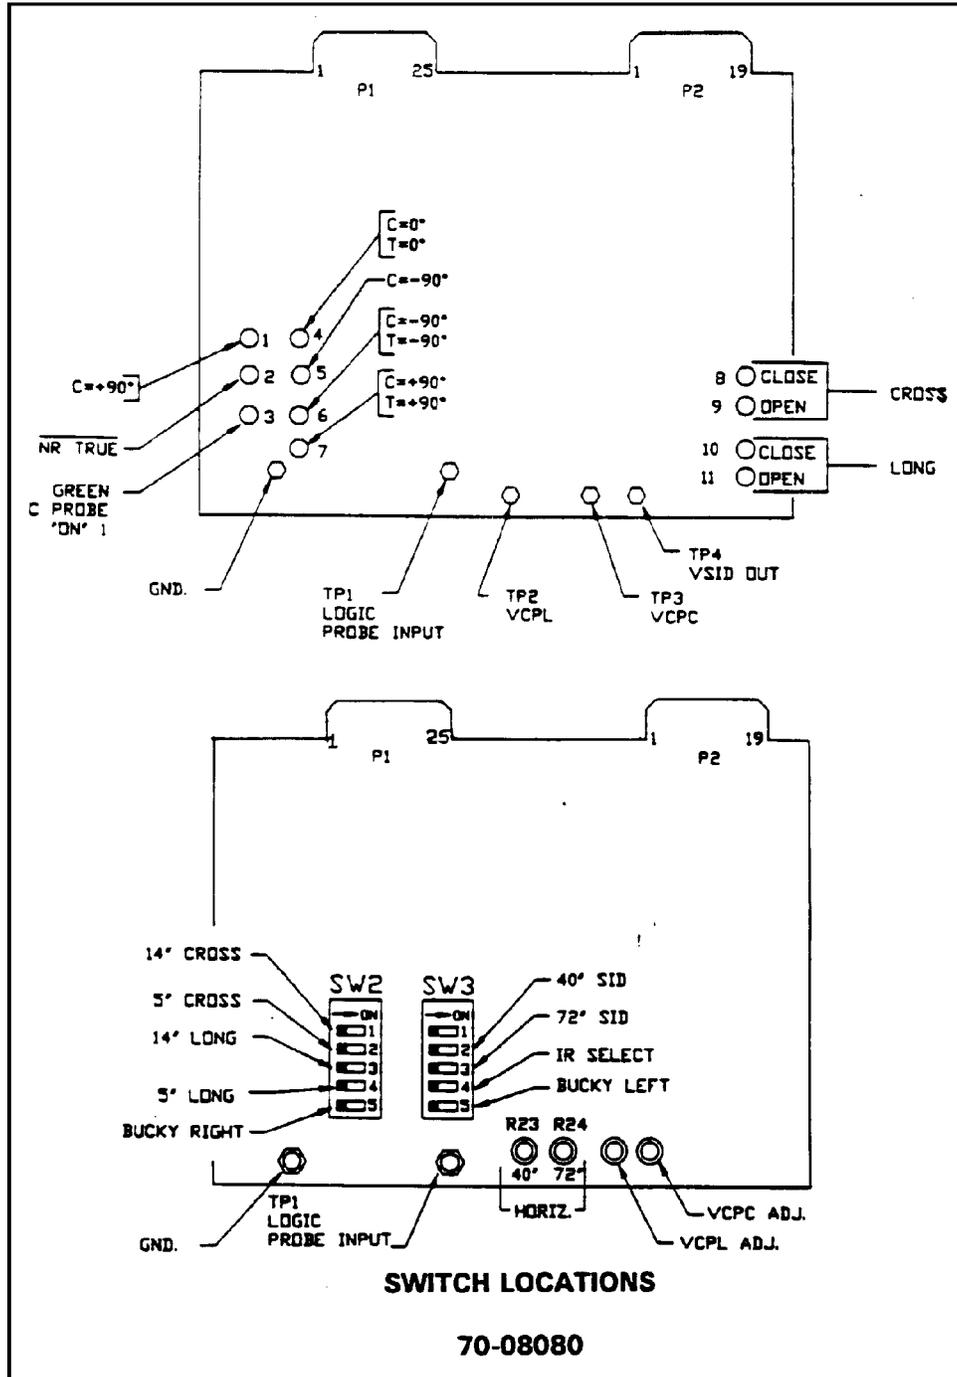

Figure 3-81
(1) Remove the collimator cover.
(2) Set the switches on the logic PCB shown in Figure 3-81 as follows:
(3) Position the tilt switch at 0° horizontal. Angulate the collimator to a 0° beamdown position. Slowly angulate the collimator +20° toward a beam-left position and back to -20° toward a beam-right position.
**NOTE:** LED-4 must be on at 0° and remain on for +11° and -11° angulations. (See Figure 3-81.)
(4) Angulate the collimator to a +90° beam-left position and slowly angulate it to 20° down below horizontal (+70° from vertical).
(5) Angulate the collimator to a -90° beam-right position and slowly angulate it to 20° down below horizontal (-70° from vertical).
(1) Verify that there is no jumper between TS2-5 and TS2-10 on the Logic PCB. Angulate the collimator to 0° beam-down. Angulate the table to 0° horizontal and slowly tilt it to +20° and then -20°.
**NOTE:** LED-4 must be on with the table at 0° and remain on for +11° and -11° from horizontal. (See Figure 3-81.)
(2) Position the table at +90° upright (usually about an actual +85°) and angulate the collimator to a +90° (LED-1 ON) beam-left position. Slowly tilt the table 20° down from the maximum upright position (+70°).
**NOTE:** LED-7 must be ON at a maximum upright and remain ON until the table is angulated down to +79°. (See Figure 3-81.) LED-1 will also be ON.
(1) SW2-1 through 4 and SW3-1 through 4 of the Logic PCB must be OFF. (See Figure 3-81.)
(2) Angulate the table to 0° horizontal and the collimator to 0° beam-down position.
(3) Measure the distance from the center of the plastic exit window to the center of the light field on the table top. Set this distance to 30-5/8" ±1/16" in order to achieve 40" focal spot to table top distance.
**NOTE:** The ON and MANUAL indicators on the collimator front panel should be ON and LED-2 on the Logic PCB should also be ON. (See Figure 3-81.)
(4) Set SW2-1 and SW2-3 ON to simulate a 14" x 14" cassette. Set SW3-4 ON to simulate the insertion of a cassette in the cassette tray.
(5) Set SW3-2 ON to simulate 40" SID switch closure. Move the front panel sliding SID scale knob to the 40" detented position.
- (1) Angulate the collimator to 90 degrees with the X-ray beam at the wall mounted cassette holder. Angulate the table to 0 degrees horizontal.
- (2) Check the LEDs and switches on the Logic PCB as shown in Figure 3-81.
- (3) Move the collimator horizontally to a 40" SID and slowly move the collimator to a greater and then lesser SID.
- (4) Ensure the 40" indicator on the collimator is ON at a measured 40" SID and switches OFF at a maximum of 40.40" and at a minimum of 39.60" SID.
**NOTE:** The LEDs and switches are located on the Logic PCB as shown in Figure 3-81.
- (1) Angulate the table to a full upright position. Angulate the collimator beam left to aim the X-ray beam at the upright table cassette tray. LED-7 on the logic PCB must be ON .
- (2) Move the collimator horizontally to a 40" SID and slowly move the collimator to a greater and then to a lesser SID.
(3) Ensure the 40" indicator on 40" SID, switches OFF at a maximum of 40.40" and OFF again at a minimum of 39.60" SID.
(1) Set the switches as follows:
(1) Locate the LEDs and switches on the Logic PCB as shown in Figure 3-81.
(2) At the end of this test procedure, set the test switches as follows: